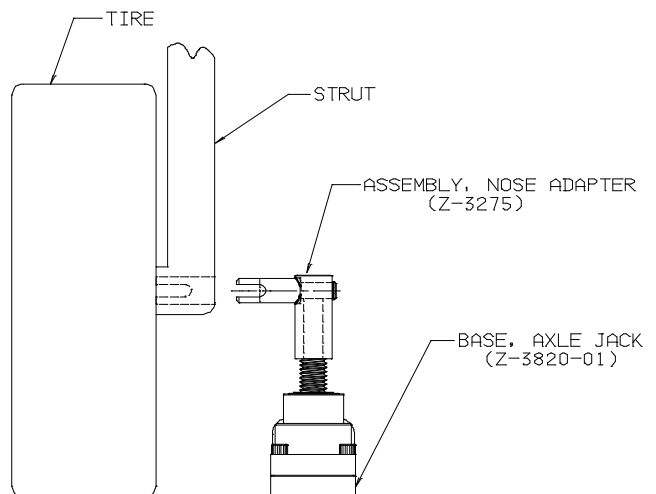

FIGURE 2
5. Place nose (Z-3275) adapter over mechanical extension. Reference **Figure 2**.